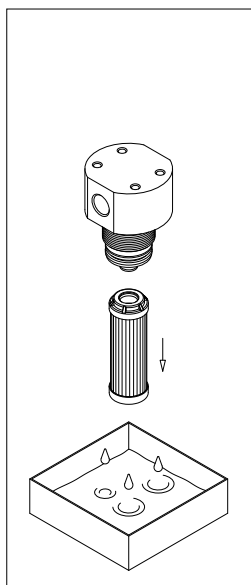

fig. 8
- (Fig. 8) Pull the filter element out